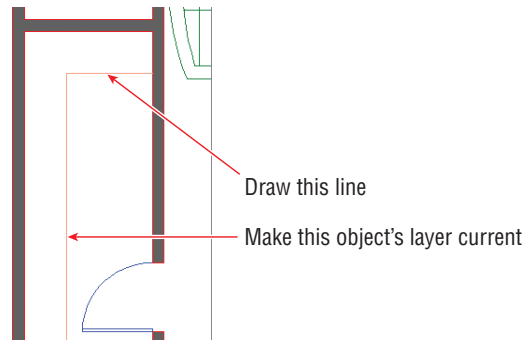

FIGURE 6.8 Drawing a line after using the Make Object's Layer Current tool
-  11. Click the Line tool on the Draw panel, and draw the line shown in Figure 6.8. Press Esc to end the LINE command.